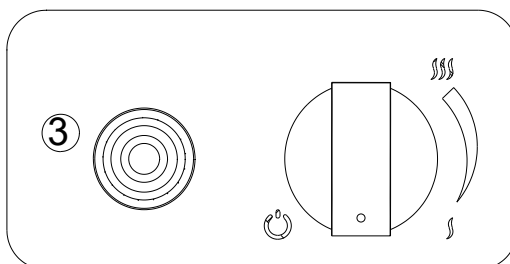

Fig 13 – Pressing the on button
- To turn off the device, simultaneously press and turn the knob all the way clockwise (*Fig 13*). The gas supply will be cut and the flame on burner will be turned off.